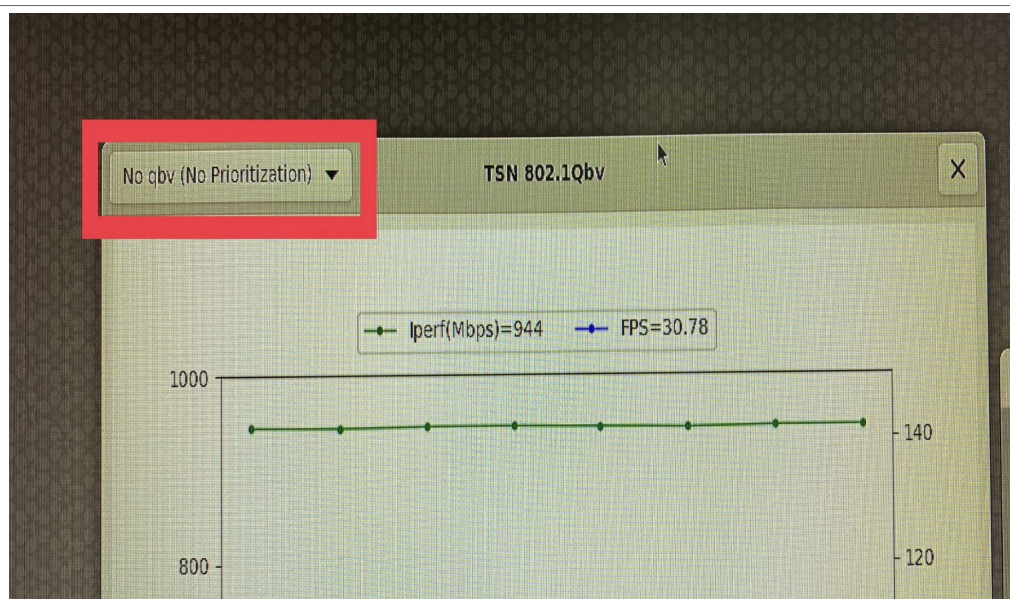
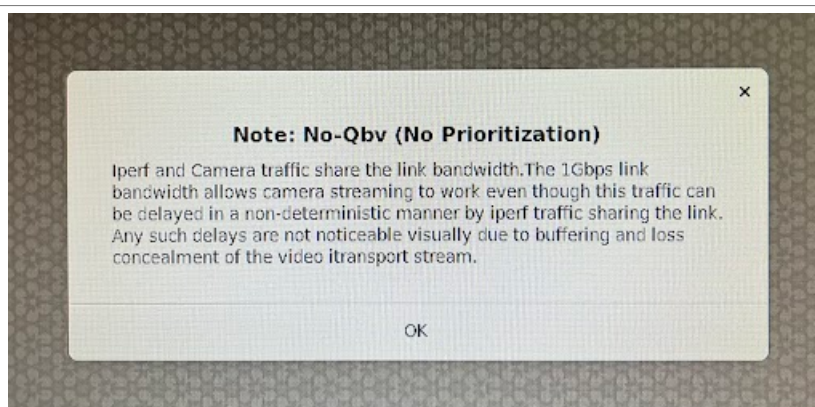

Figure 50. No qbv (No Prioritization) configuration button
Figure 51. About No-Qbv (No Prioritization) pop-up
- After clicking the **No qbv (No Prioritization)** button, as shown in Figure 50, a pop-up with a message appears, as shown in Figure 51.